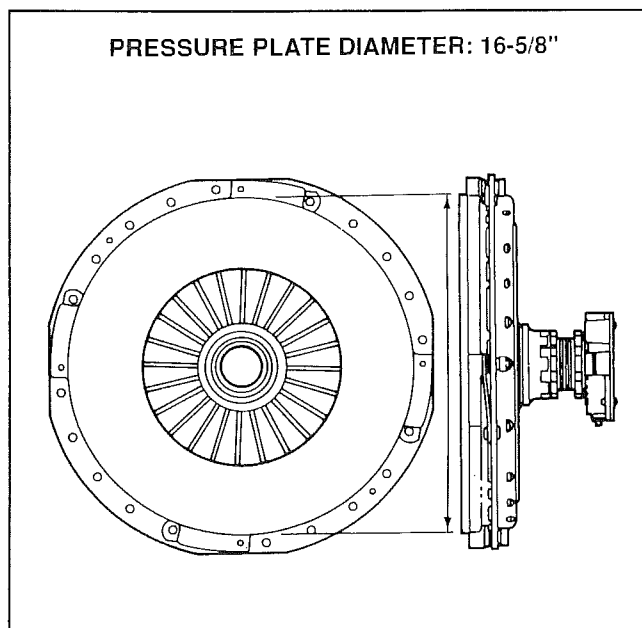

Figure 4-10. Measuring Points on Pressure Plate for 17-inch Clutch (Pot Type)
- Measure the pressure plate diameter (Fig. 4-10).